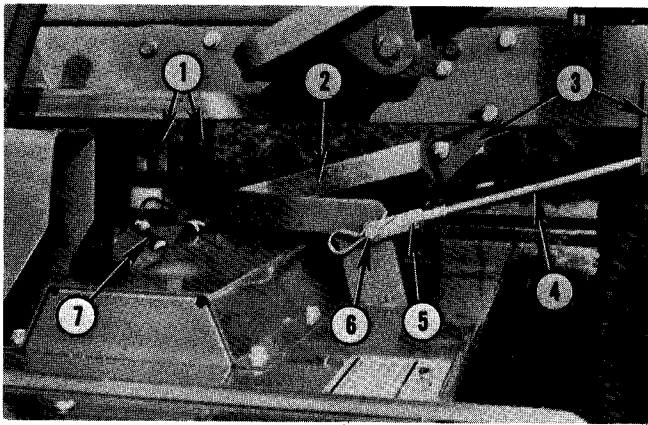

Fig. 46 — Attaching Mower
3. Attach rear lift arms to rear anchor plates as shown in Fig. 46.
4. Attach hanger straps to mower as shown in Fig. 46.